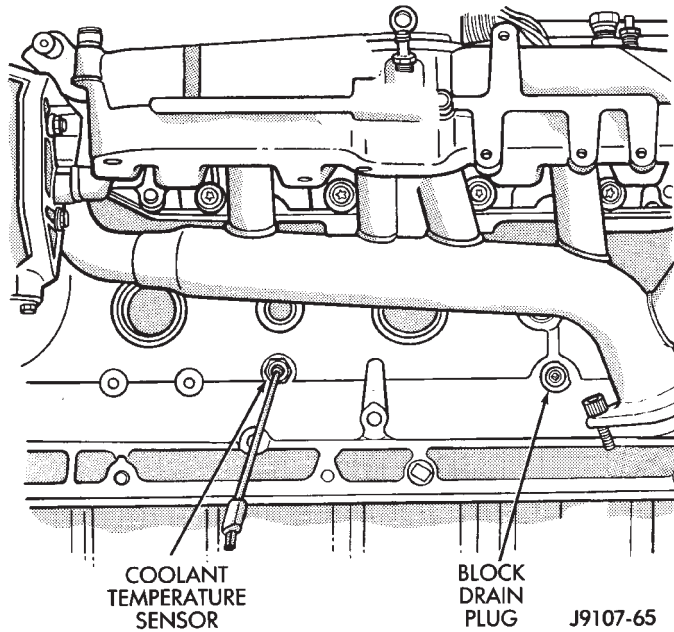
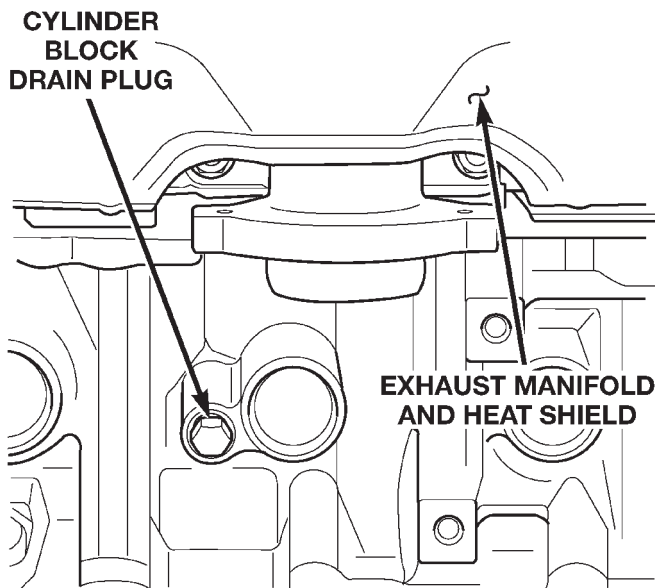

Fig. 52 Drain Plug—4.0L Engine
Fig. 53 Drain Plug—4.7L Engine
- (1) Disconnect negative battery cable from battery.
- (2) Drain coolant from radiator. Refer to Draining and Filling Cooling System in this section.
- (3) Raise vehicle.
- (4) Remove engine cylinder block drain plug(s) located on the sides of cylinder block above the oil pan rail (Fig. 52) (Fig. 53).
- (5) Remove power cord from block heater.